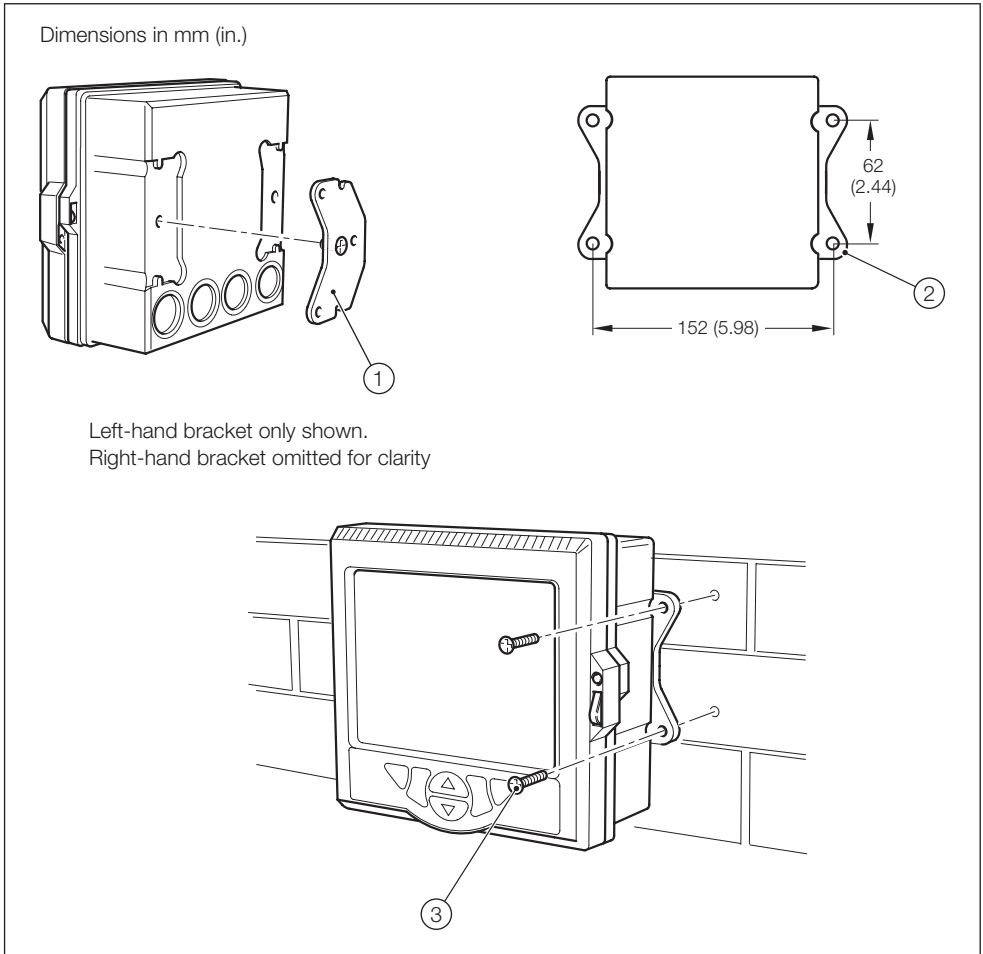

Fig. 2.5 Installing the Instrument – Wall-Mounting
2.2.2 Wall-Mounting – Fig. 2.5
Referring to Fig. 2.5, secure the instrument to a wall as follows: